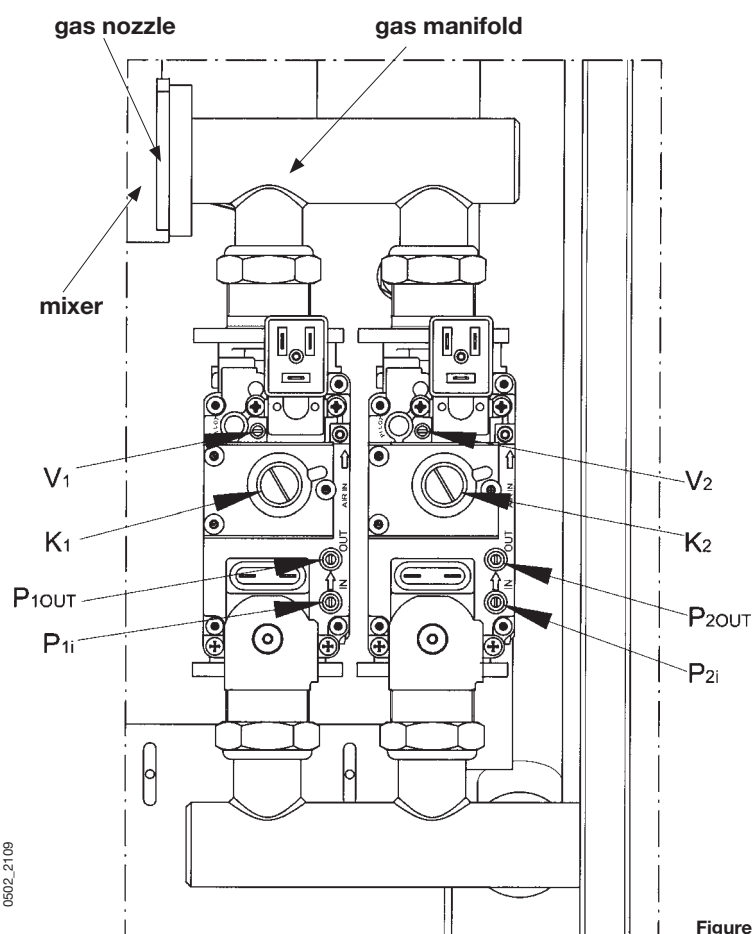

Figure 12b
## 13.2 DOUBLE GAS VALVE MODELS (POWER HT 1.1200 AND 1.1500) FIGURE 12b
- For models with two gas valves, replace the diaphragm located at the venturi inlet (figure 12b).